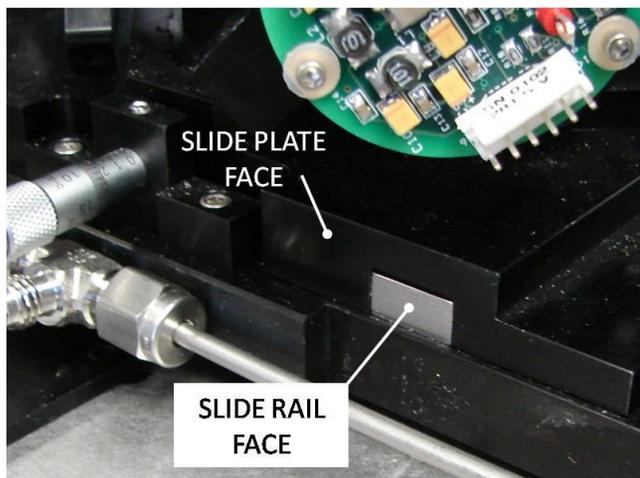

Figure 34: Centered chamber (coplanar slide plate and slide rail end faces)
- 4.66. When putting the detector chamber back in, set it at the center of its travel as shown in Figure 34, and put the Mode Aperture in place in the upside-down orientation.